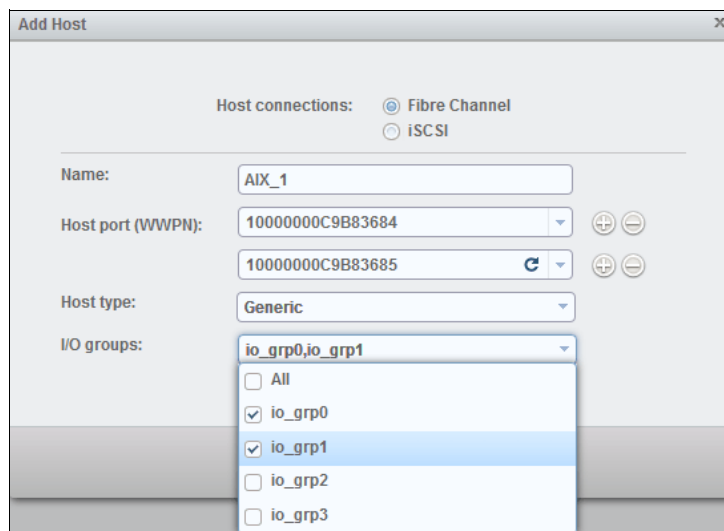

Figure 5-56 Add AIX host to two I/O groups
3. The fields to set the new host are displayed (Figure 5-56). Provide a name for the host and select the host port WWPN. Use the default for the host type unless you have other requirements. Select **io\_grp0** and **io\_grp1**. Click **Add** to create the host.